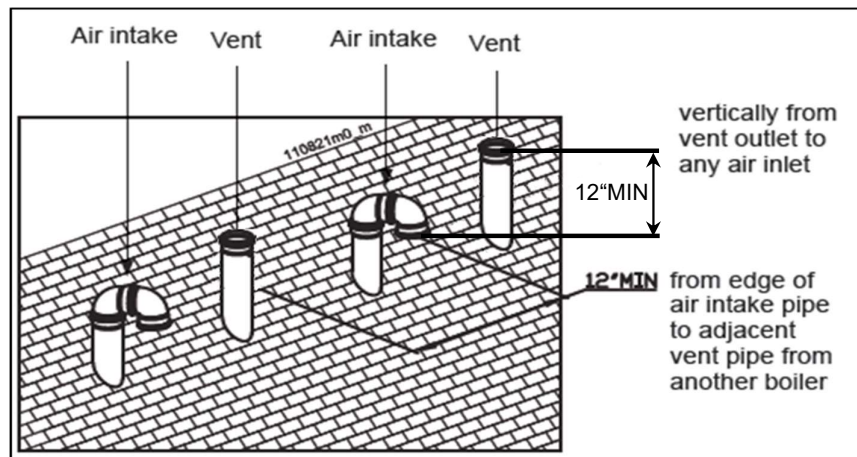

Figure 10.24
2. Place roof penetrations to obtain minimum clearance of 12 inches (305 mm) between outside edge of air intake and exhaust vent of another boiler for U.S. installations (see Figure 10.24). For Canadian installations, provide clearances required by the latest edition of the CAN/CSA B149.1 Natural Gas and Propane Installation Code.
CAUTION	<p>Ensure termination height is above the roof surface or anticipated snow level (a minimum of 12 inches (305 mm) in U.S.A. or 18 inches (457 mm) in Canada) as shown in Figure 10.24.</p>